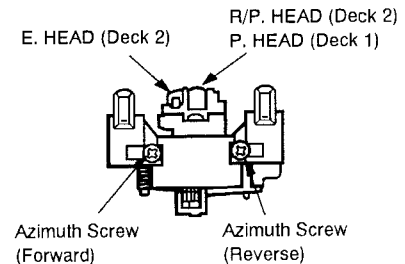

Fig. 4
3. Playback the azimuth adjustment portion (8 kHz, -20 dB) of test tape (QZZCFM). Adjust the azimuth adjusting screw until the outputs of the L/R-ch are maximized. (Refer to Fig. 4.)